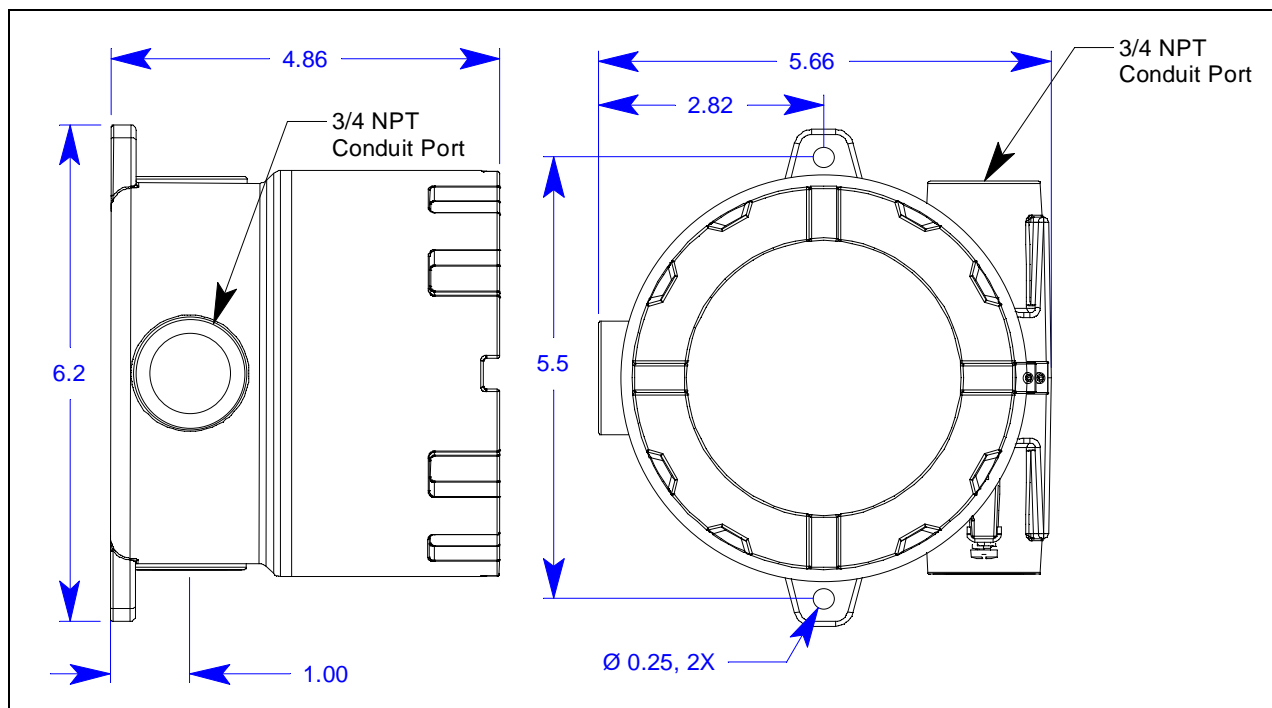
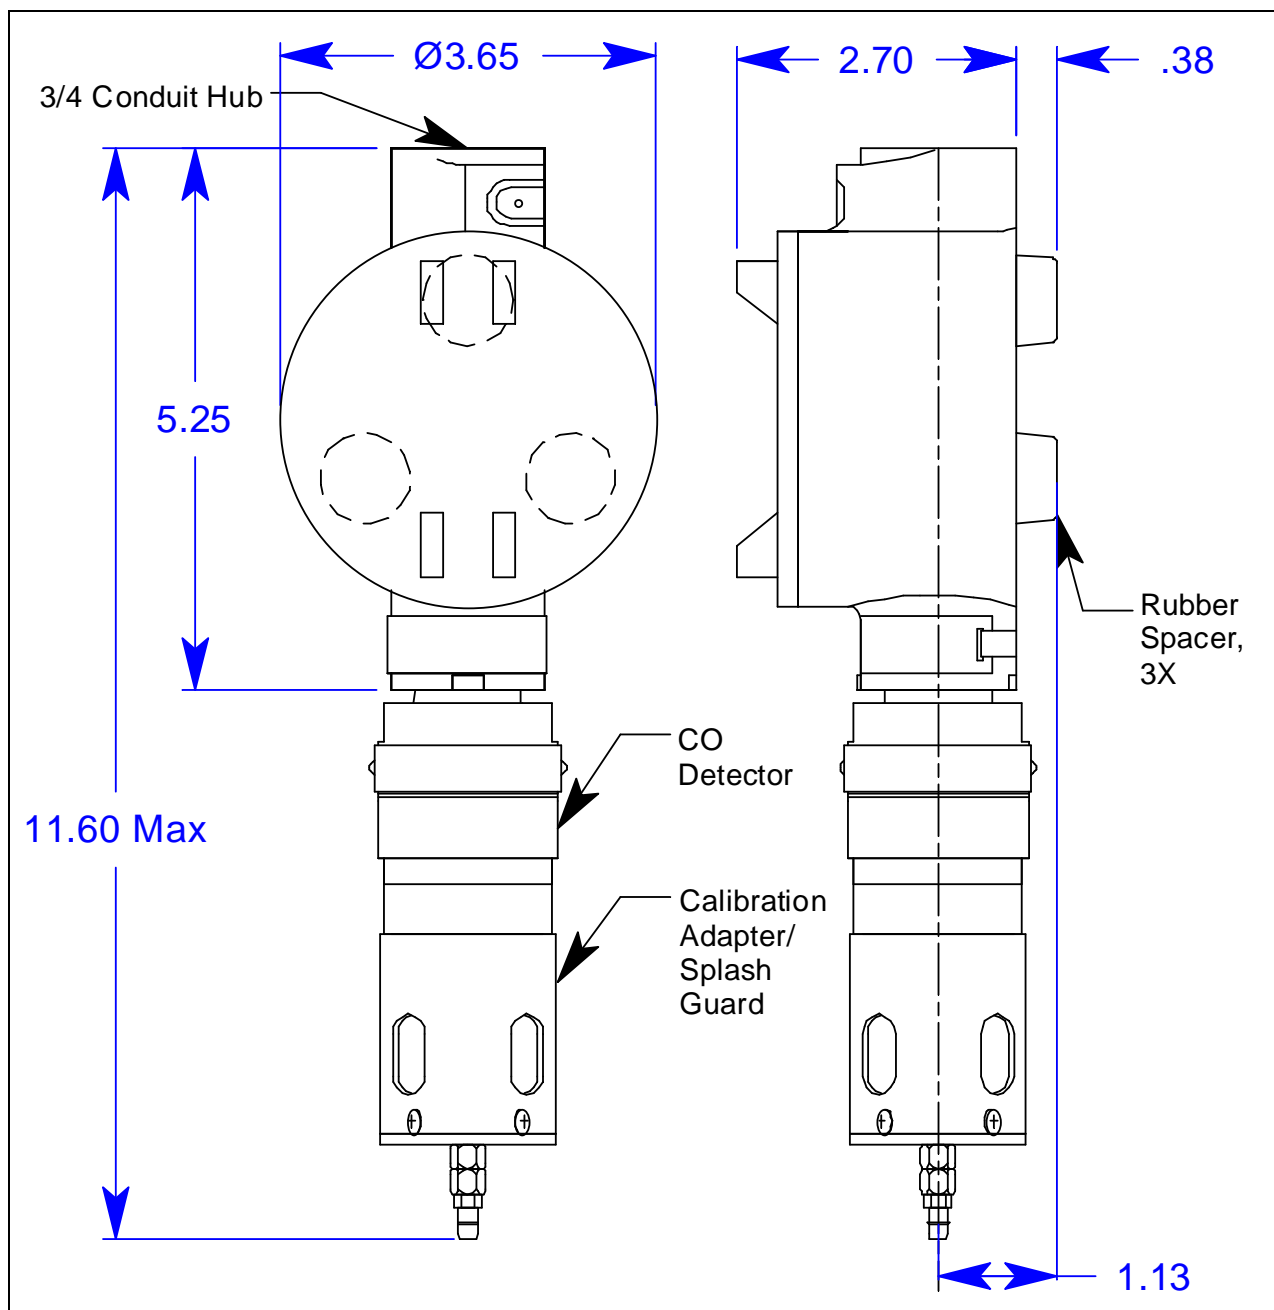

Figure 6: Outline & Mounting Dimensions, M2A Junction Box
Figure 7: Outline & Mounting Dimensions, Detector Junction Box
2. Use #10 screws through the M2A junction box's two mounting slots to secure the junction box to a vertical surface. Figure 6 shows the outline and mounting dimensions the M2A junction box. Figure 7 shows the outline and mounting dimensions for the detector junction box. Mount the detector junction box with the detector facing down as shown in Figure 7.